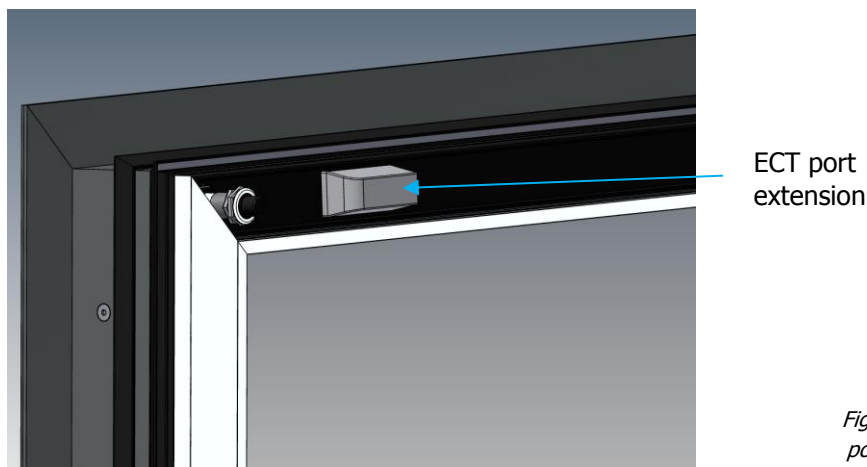

Figure 5 – ECT port extension
3. Remove the clip-on covers around the lower perimeter of the rooflight. This is done by first pulling the bottom to release as shown in *Figure 5*.